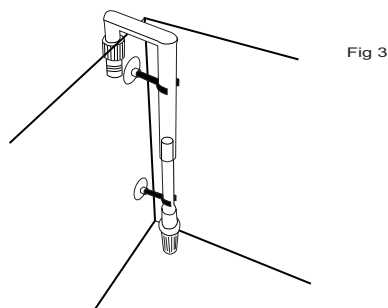

Fig 3
11. Install the inlet first. (One with the Strainer) Place it into the aquarium, stick it to the glass wall. Fig 3